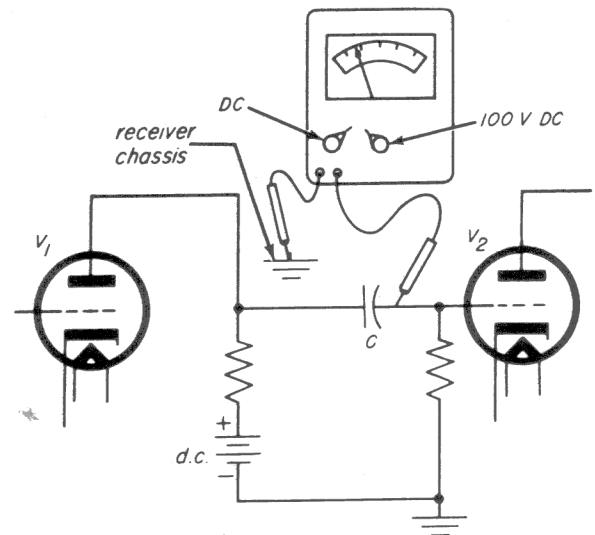

Fig. 15-8
1. Reconnect the capacitor as it would normally be in the circuit, as shown in Fig. 15-8.